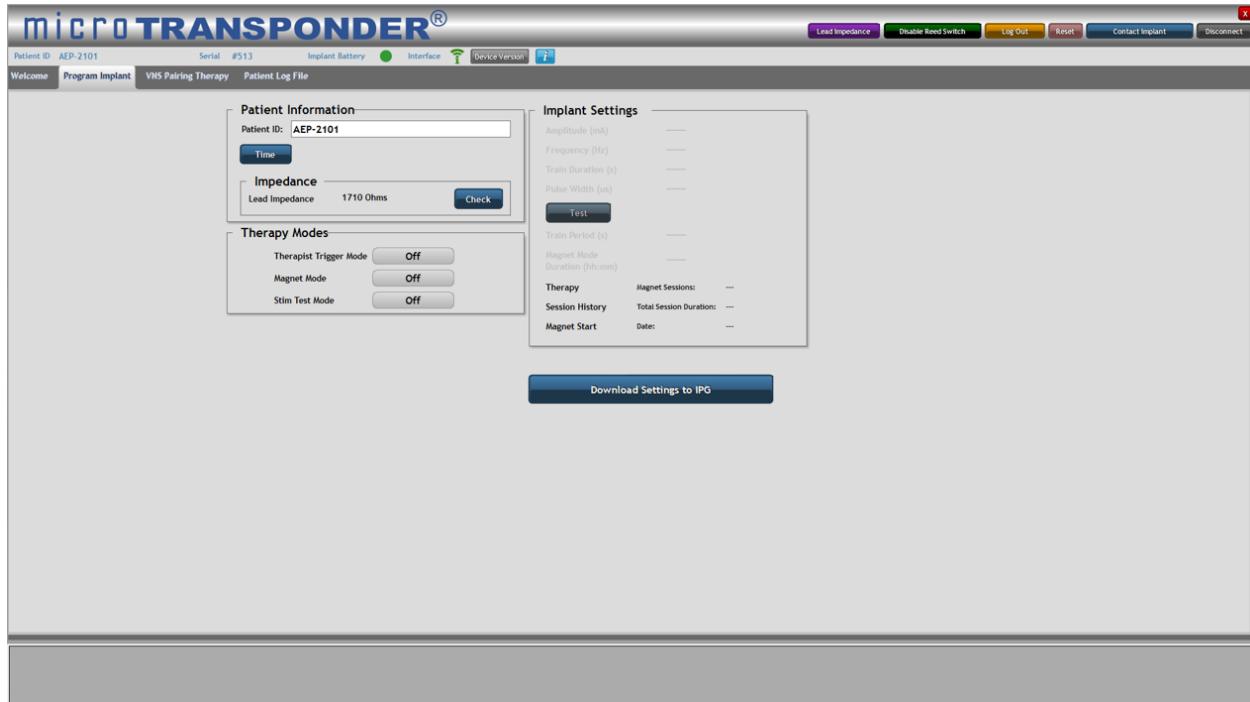

Figure 4.1: Program Implant
The **Program Implant** menu (see Figure 4.1) allows the user to set the patient information, test and set stimulation parameters, set therapy mode(s), and check impedance during implant and follow-up visits.
2. Program this Patient ID to the IPG by selecting the **Download Settings to IPG** button, located in the center of the screen (see Figure 4.1).